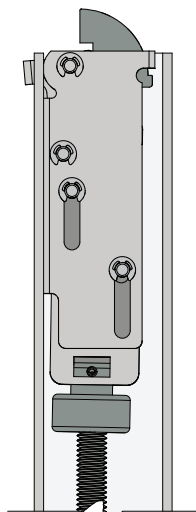

FIG. 26
1. The door must be in the closed position and the push bar must be in the un-dogged position to complete the following adjustments. **(Fig. 26)**